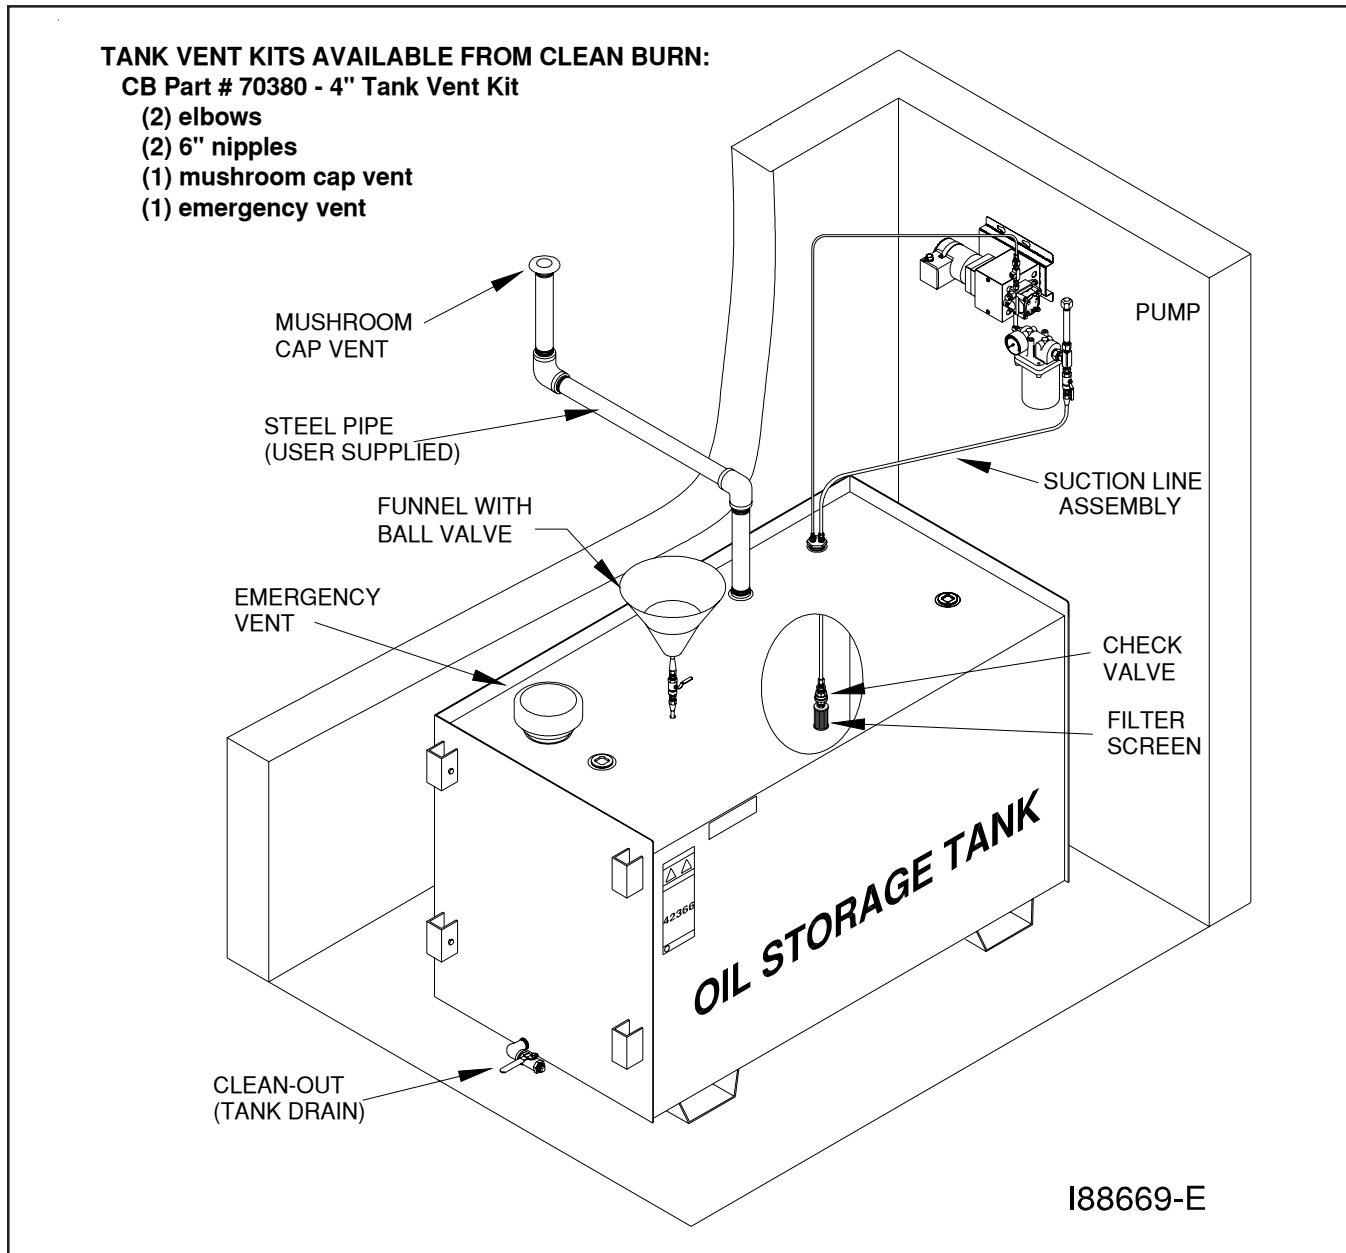

FIGURE 4F - Typical Metering Pump Installation with Inside Tank
National codes require that you install a tank vent (to the outside) and an emergency vent for your tank as shown in Figure 4F. **Tank Vent Kits** are available from Clean Burn; contact your local Clean Burn dealer to order. Be sure to check your local codes for any additional tank installation requirements, and adhere to the following installation guidelines:
- Install a length of minimum 2" steel pipe (user-supplied) terminating outside with a proper vent cap as shown in Figure 4F. Consult local codes for information and requirements concerning the proper venting of oil storage tanks.
- Install an emergency vent as shown in Figure 4F. Contact your tank manufacturer for information concerning the proper emergency vent for your tank.